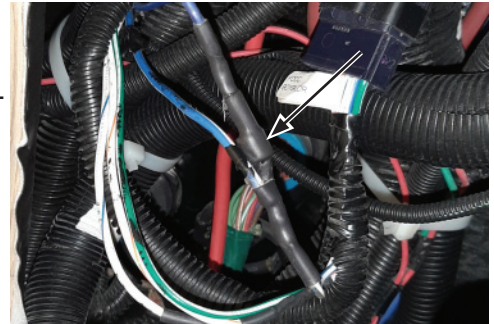

Figure 6
8. Once the correct connector and harness has been located, remove the wire loom and any tape from the harness approximately 6-8" from the connector in order to locate the diode connecting Circuit 089 (blue-white wire) to Circuit 053 (blue wire). See Figure 6.